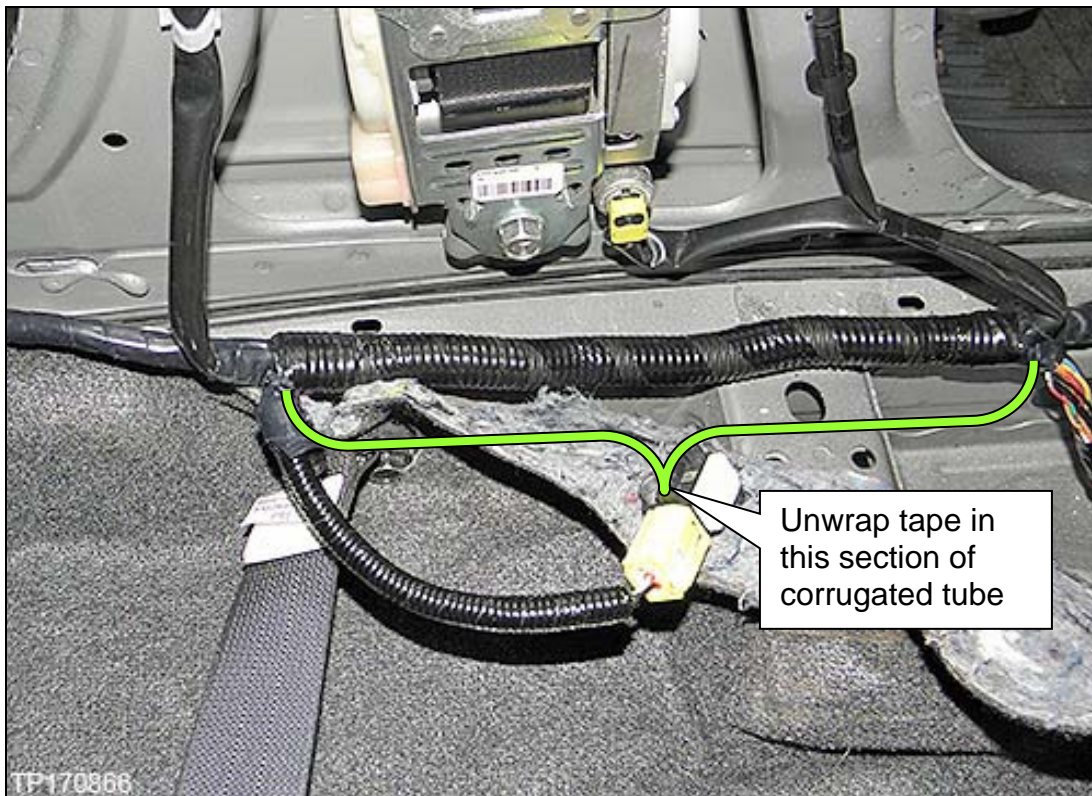

Figure 49
41. Unwrap the black tape from the corrugated tube where shown in Figure 49).